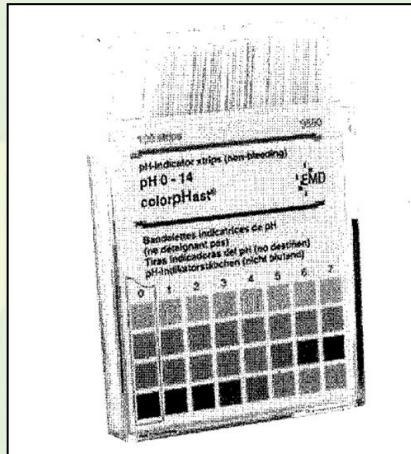

Figure 4: Apparatus for pH indicator strips (4 colours)
i) pH indicator strips (4 colours); refer to Figure 4: Apparatus for pH indicator strips (4 colours)